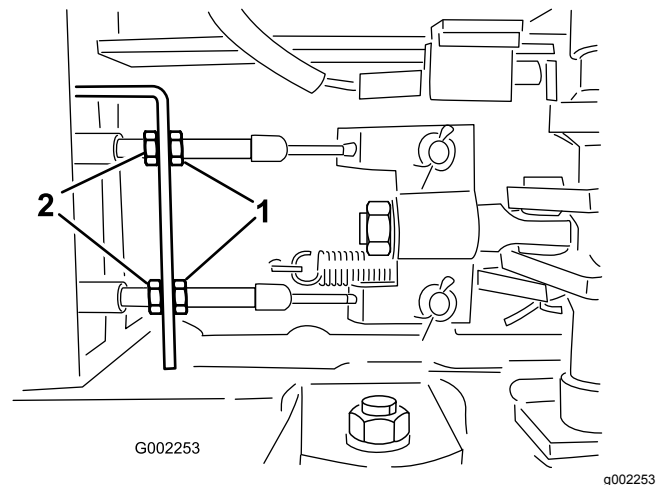

Figure 57
5. Loosen the front nuts on the brake cables under the front end of the sprayer (Figure 57).
6. Tighten the rear nuts equally until the brake pedal moves between 1 to 2 cm (1/2 to 1 inch) before you feel resistance (Figure 57).